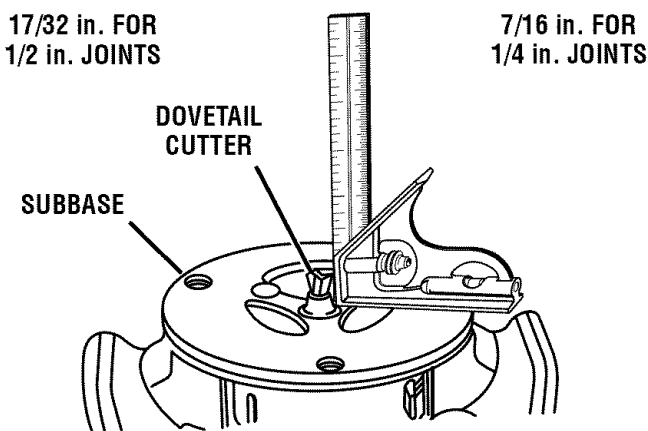

Fig. 19
- Adjust the base on the router until the cutter extends 17/32 in. beyond the router subbase for 1/2 in. joints. Adjust 7/16 in. beyond the router subbase for 1/4 in. joints. See Figure 19.